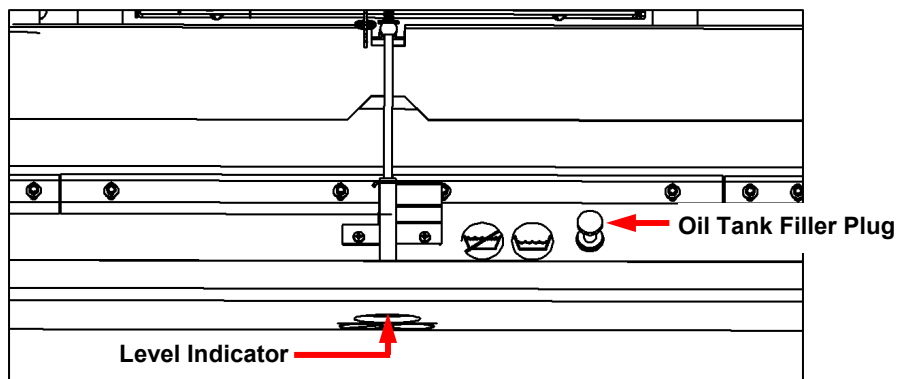

Figure 3-15
2. Remove the plug from the top of the oil tank and set it aside (see Figure 3-15).